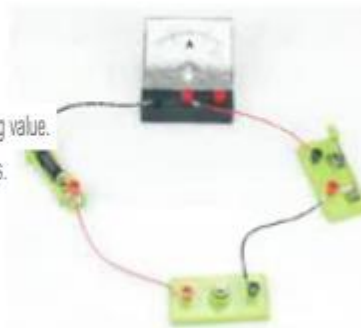

Figure 3-1
1. As shown in Figure 3-1, connect the circuit to measure the current of a bulb and learn how to read ammeter readings.